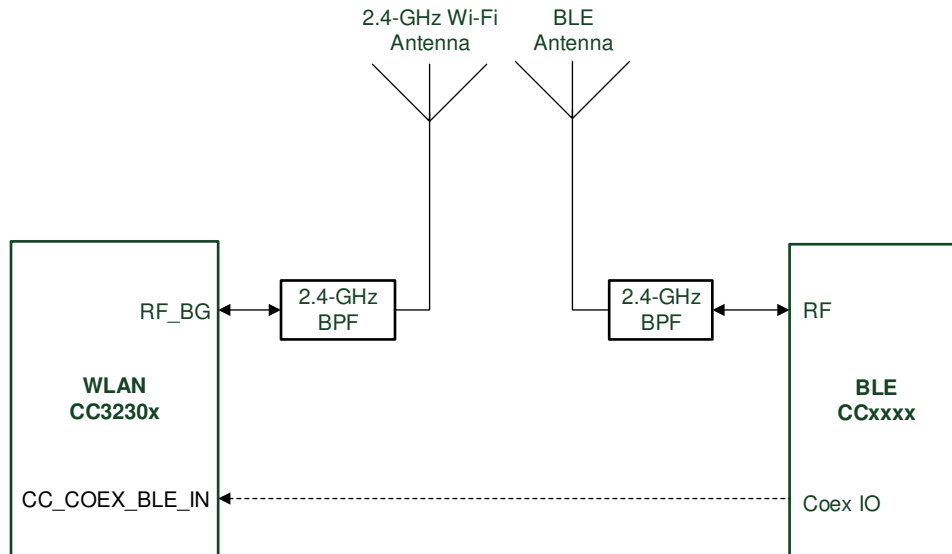

图 10-2. Dual-Antenna Coexistence Mode Block Diagram
- in this mode, (see Figure 10-2) the two entities have separate antennas, No RF switch is required and only a single GPIO (on input from the WLAN perspective).
图 10-2 shows the dual antenna implementation of a complete Bluetooth low energy and WLAN coexistence network. Note in this implementation no Coex switch is required and only a single GPIO from the BLE device to the CC3230x device is required.